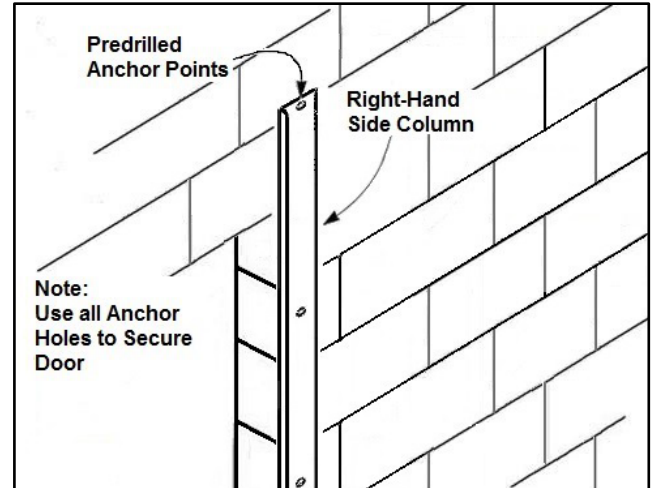

Figure 21
5. Using the predrilled anchor points in the back of the column as a reference, mark their location on the wall. (See Figure 21)